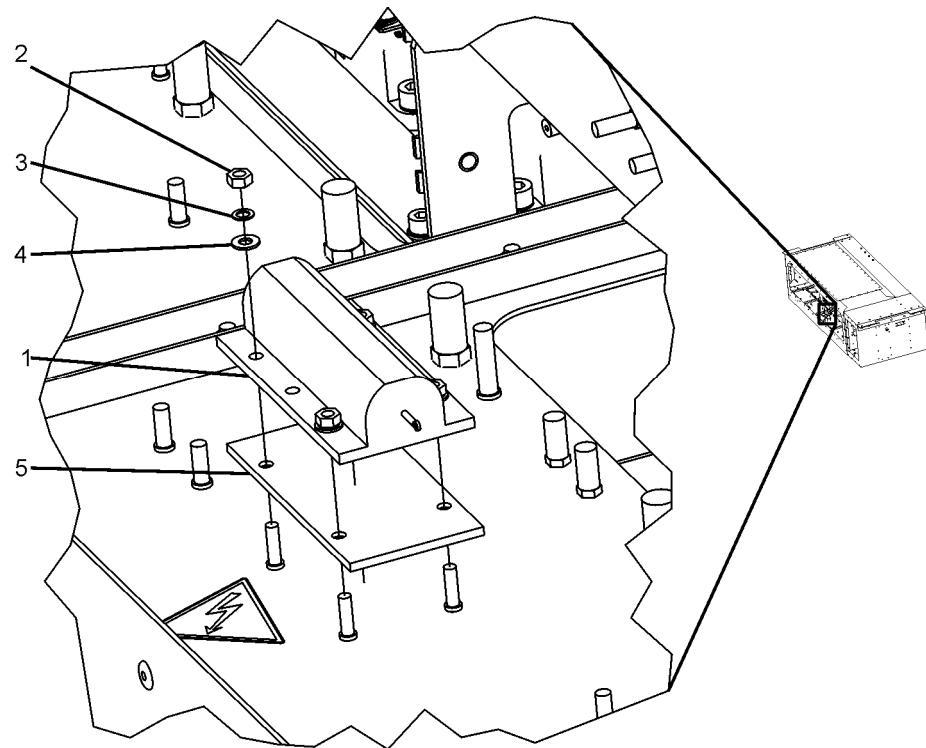

Figure 5-30: R311 Anchor Points
6. Detach R311 (see Figure 5-30). R311 (1) is mounted atop a mounting plate at four anchor points and is held in place with four M4 nut, M4 Schnorr washer and M4 flat washer sets. Remove these fasteners to detach R311.
3. Insert R311 (see Figure 5-30). Insert the resistor by aligning the mounting holes on the base with the anchor points.
4. Attach R311 (see Figure 5-30). R311 (1) is mounted atop a mounting plate at four anchor points and is held in place with four M4 nut, M4 Schnorr washer and M4 flat washer sets. Affix these fasteners and tighten to 20 lb-in (2.3 Nm) of torque.